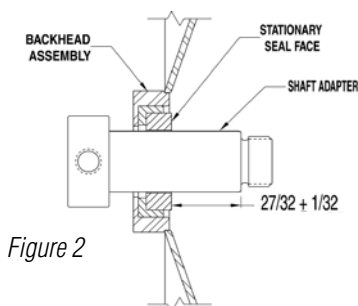

Figure 2
4. Insert the backhead (item 7) into the motor adapter (item 8) bore and press into place. If the shaft adapter was not loosened or removed, go to step 5. If replacing the shaft adapter, firmly hold the backhead toward the motor, and adjust the shaft adapter until the shoulder is .843 (27/32) inches from the stationary seal face (see figure 2). Tighten all four setscrews with a T wrench through the access slots in the motor adapter to 75 in-lbs dry, 60 in-lbs lubricated.